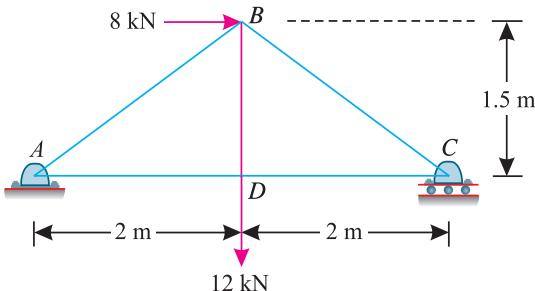

Fig. 14.39.
**Exmaple 14.15.** Figure 14.39 shows a framed structure of 4 m span and 1.5 m height subjected to two point loads at B and D.